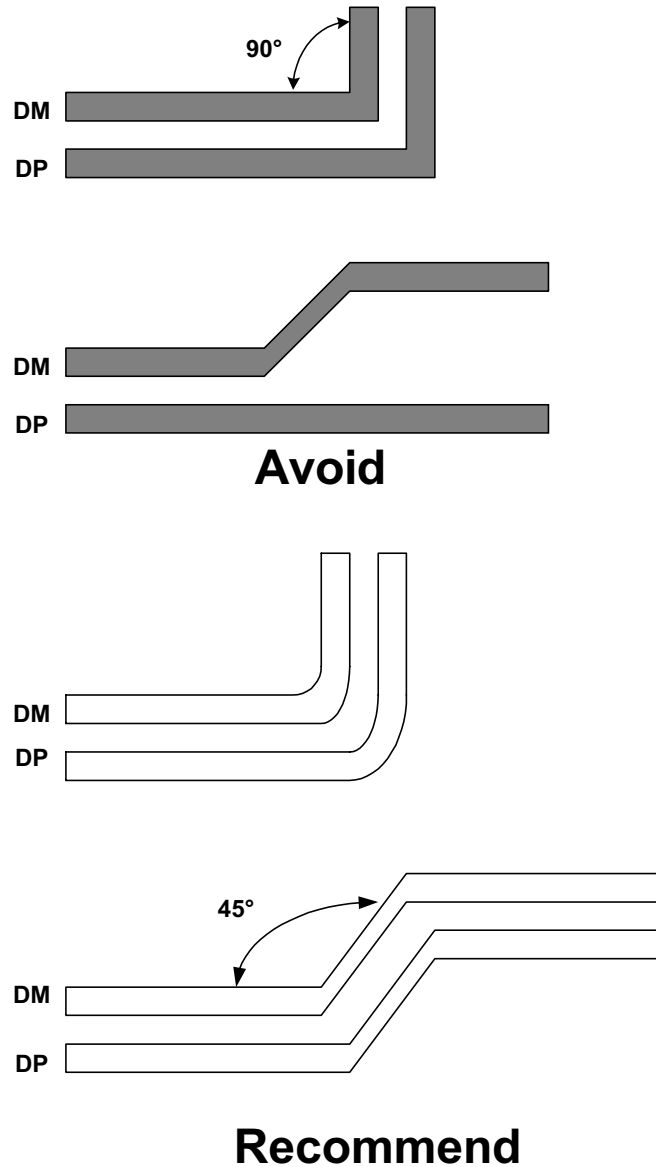

Figure 13. USB Differential Signal Layout and Routing Guidelines
Figure 13 shows general USB differential signal layout and routing recommendations. Maintain plus (DP) and minus (DM) signal traces a fixed distance apart (same distance apart as the width of the trace) from the VT6202 to the USB receptacle. Use two 45° corners or an arc to instead of one 90° corner